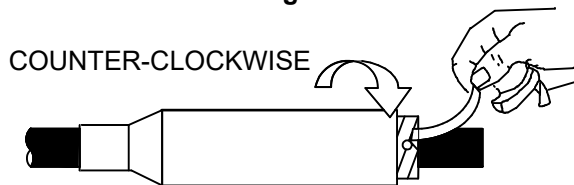

Figure 5
6. Center the splice over the connector area. Remove the core by unwinding counter-clockwise, starting with the loose core end. An occasional tug of the core strand while unwinding will aid in core removal. Splice is complete after the core is removed. See Figure 5.